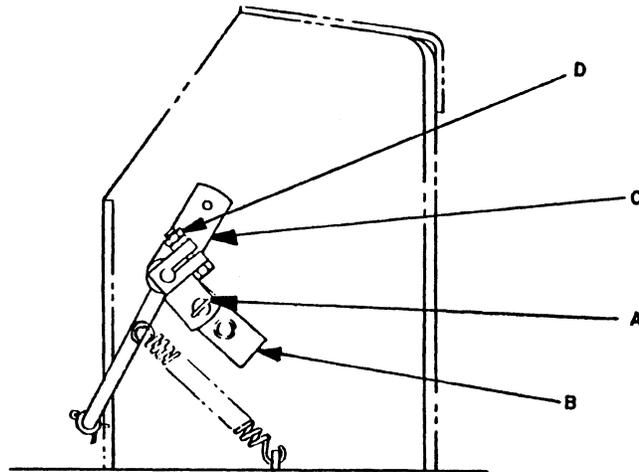

FIGURE 2
2. The first table should be adjusted to return when the first table reaches an angle of approximately 92° to the second table. Refer to Figure 2. The actuating magnet for the return system is mounted on link, C; the electronic sensor is mounted on link, B. As the first table delivers, it rotates link, C, in a clockwise direction. When the desired delivery point for the first table has been reached, the magnet on link, C, should be centered on the electronic sensor on link, B.